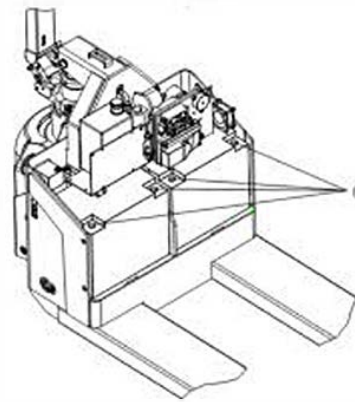

Fig.9
- (Fig 9) Loose the screw on the battery terminal. Loose the positive wire first, avoid the battery short circuit ;